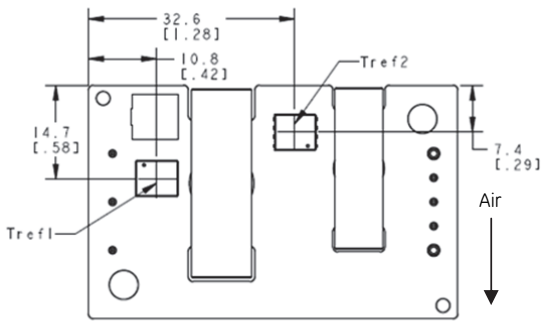

Figure 13. T_{ref} Temperature Measurement Location for open frame version.
The thermal reference points, T_{ref1} , and T_{ref2} used in the specifications for open frame modules are shown in Figure 13. For reliable operation these temperatures should not exceed 124 °C & 124 °C respectively